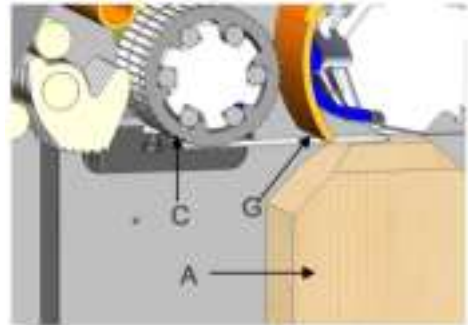
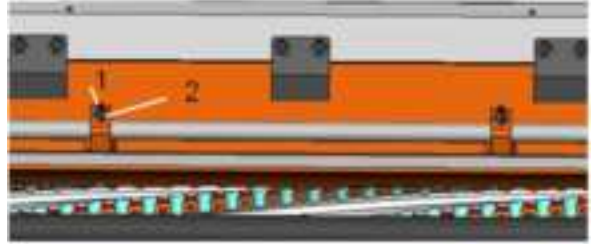

FIG. 17: FINGER ADJUSTMENT
FIG. 19: PRESSURE BAR ADJUSTMENT
1. Place a hard wood gauge (Fig. 17, A) under a knife in cutterhead (Fig. 17, B). Place a 0.02" feeler gauge (Fig. 17, C) on top of wood block and raise table until feeler gauge contacts the knife in its lowest position.
2. Loosen screw (Fig. 19, 1) and nut (Fig.19, 2) turn the screw to the right so that the pressure bar moves upward. Place gauge block and 0.2m/m thickness gauge (Fig.17, A) under the cutterhead.
2. Place a hard wood gauge (Fig.17, A) under a knife in the cutterhead. Place a 0.02" feeler gauge (Fig. 17, B) on top of wood block and raise table until the gauge contacts the knife in its lowest position.